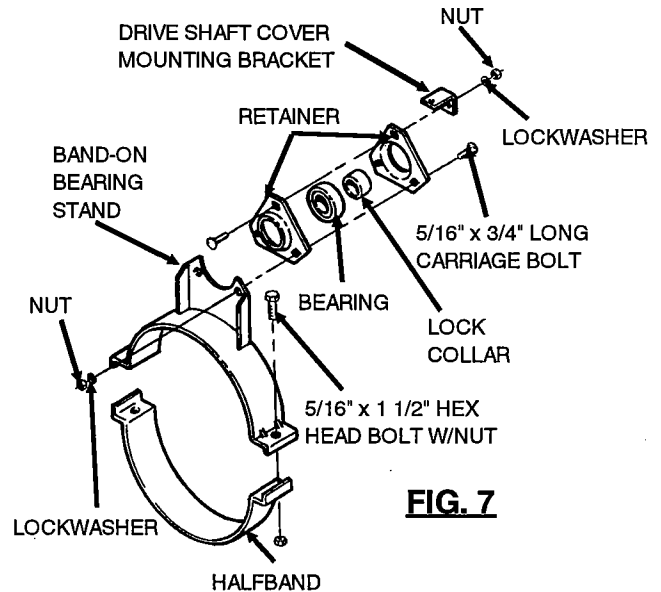

FIG. 7
1. Bolt a bearing to the band-on bearing stand. Use two retainers and one drive shaft cover mounting bracket. (See Fig. 7.)